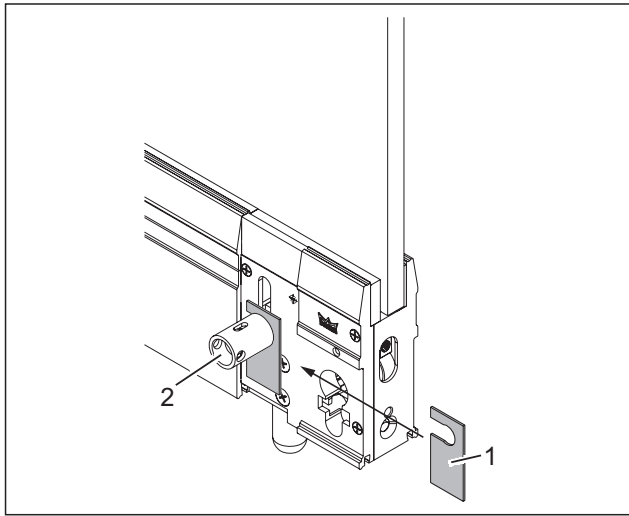

Fig. 30 Installing the panel
8. Insert panel (Fig. 30/1) behind the sleeve (Fig. 30/2) on the axis.